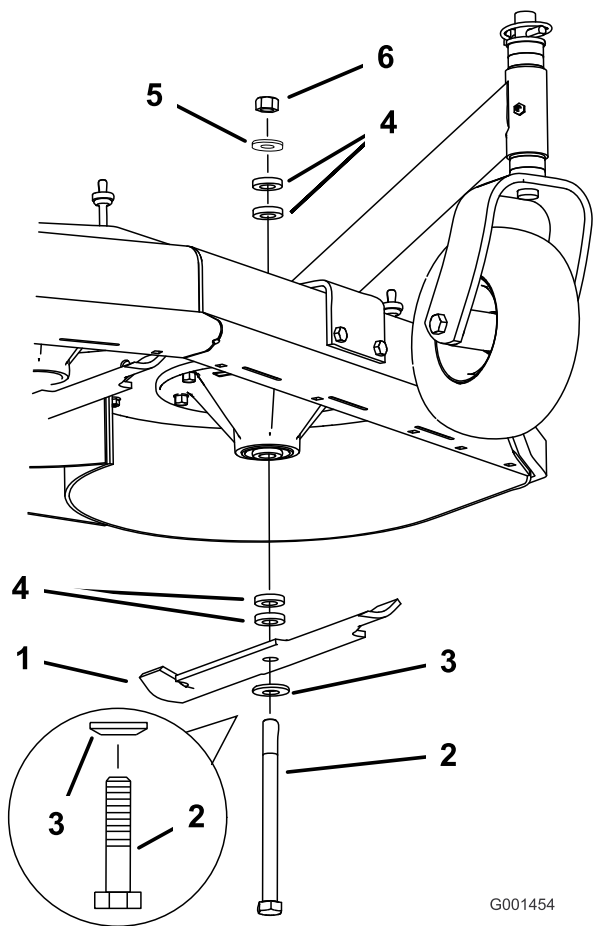

Figure 56
2. Remove the nut, blade bolt, curved washer, blade, spacers, and thin washer from the spindle (Figure 56).
1. Install the curved washer and then the blade onto the bolt. Select the proper number of spacer(s) for the height-of- cut, and slide the bolt into the spindle (Figure 56).